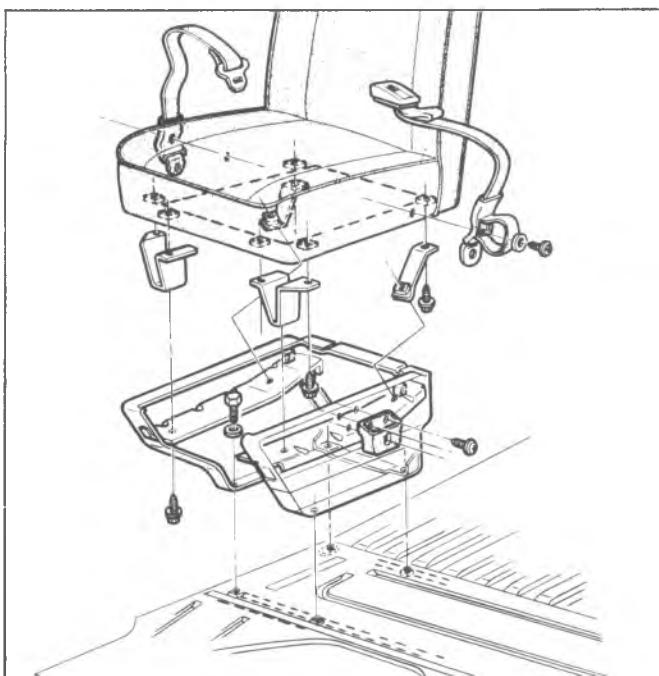

Fig. 39G—Passenger Seat
1. Remove seat and brackets from seat riser. See figure 39G.